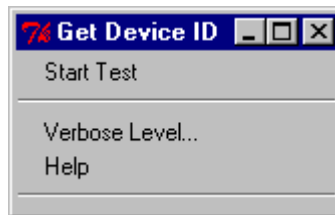

Figure 6-4. Get Device ID Dialog Box
4. Select an individual test from the list. The Test menu for the selected test appears. Figure 6-4 shows the Test menu for the Get Device ID test: